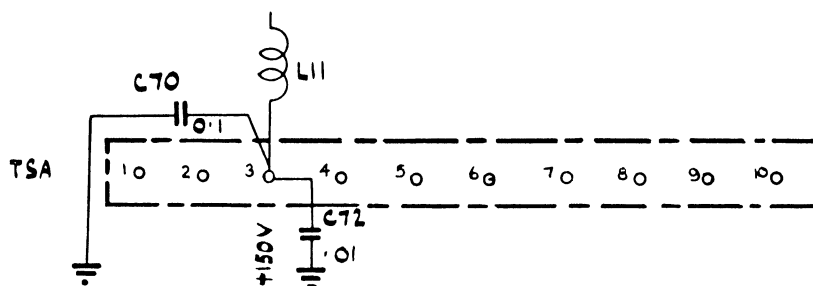

FIG 2
2. A BYPASS CAPACITOR (C70, 0.1 $\mu$ F) IS CONNECTED FROM TSA3 TO EARTH ON R.F. COIL UNIT TYPE 2C60602. THIS CAPACITOR SHOULD BE ADDED TO DRQ 60602C2 AS SHOWN IN FIG 2